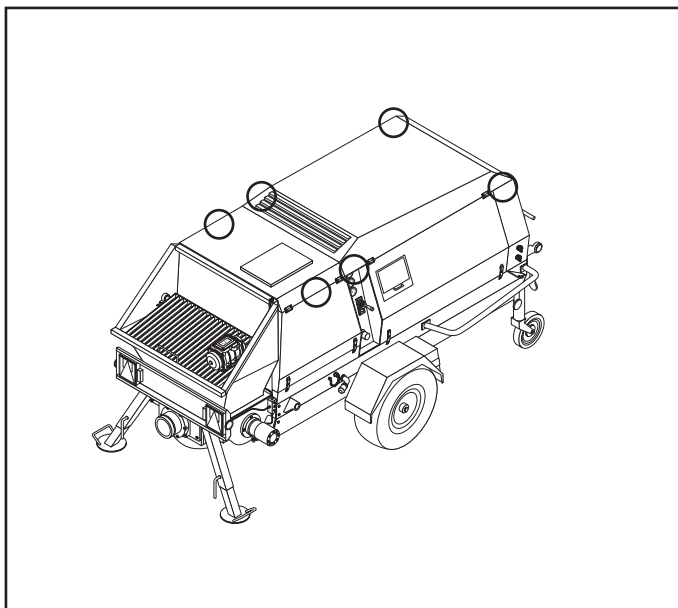

FIG. 80
- Take down the fixed casing by removing the screws on the casing mounts and on the brackets that fasten it to the hydraulic oil tank (FIG. 80).